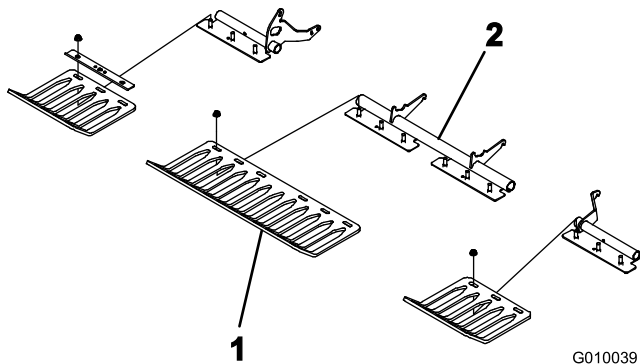

Figure 24
3. Loosely install the turf guards to the turf guard brackets with 4 turf guard clamps and 12 flange nuts (Figure 24). Do not tighten the fasteners.
Note: The turf guard clamps and flange nuts are shipped secured to the turf guard brackets (Figure 24).